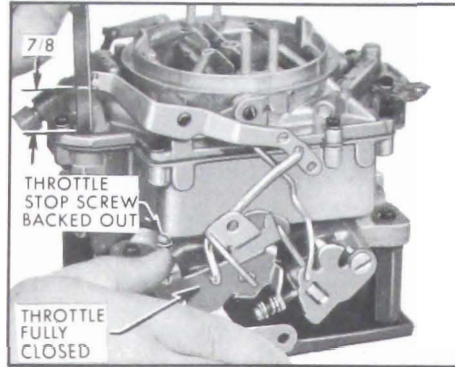

Figure 3-67—Checking Pump Plunger Adjustment
10. Pump Plunger Adjustment. Push fast idle cam to full down position and back out throttle stop screw until primary throttle valves can be fully closed. With throttle held closed and pump rod in center hole of lever, measure vertically from under side of pump plunger offset to air horn casting. See Figure 3-67. Measurement should be 1-1/64" on